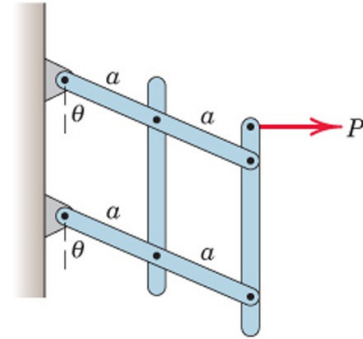

Fig. 8
- Q. No. 8 Each of the four uniform links (Fig. 8) has a mass m . determine the horizontal force P required to hold them in place in the vertical plane as shown.